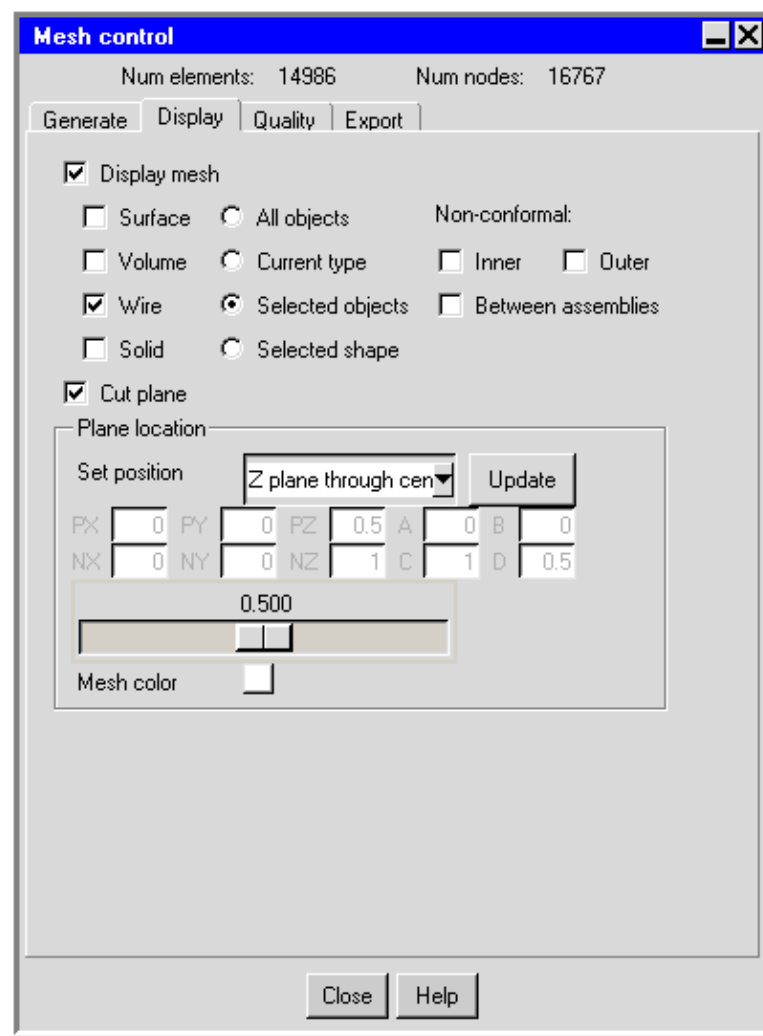

Figure 26.9.1: The Display Tab of the Mesh control Panel
2. Click on the **Display** tab to show the mesh display tools (see Figure 26.9.1).